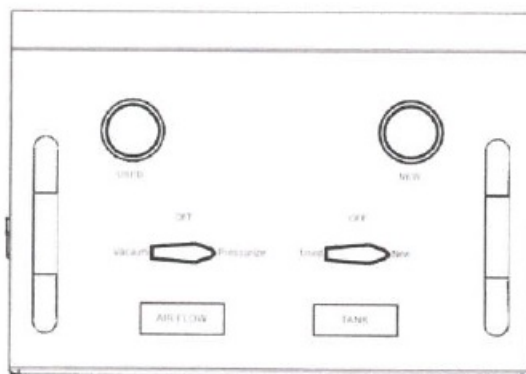

Fig.11
1. Turn the left panel valve "AIR FLOW" to the "Pressurize" position and, the right panel valve to the "NEW" position (Fig.11). Open both valves in return hose and filling hose. Then open the shop air valve, to start the coolant exchange process (During the process you can turn the left panel valve "AIR FLOW" to "Vacuum", and the right panel valve "TANK" to "Used" to remove air bubbles in the coolant system.):